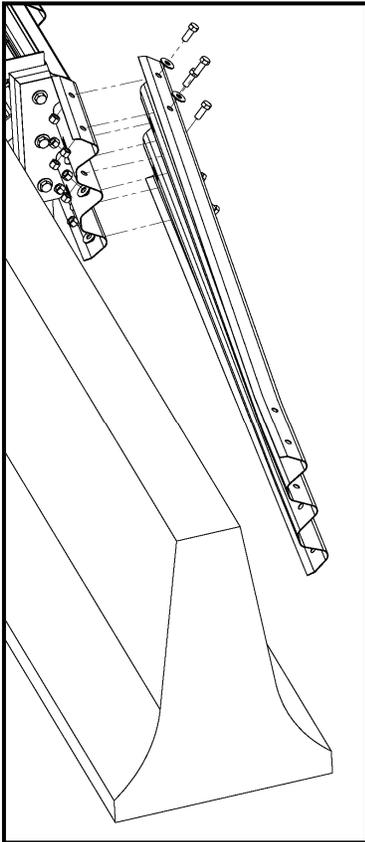
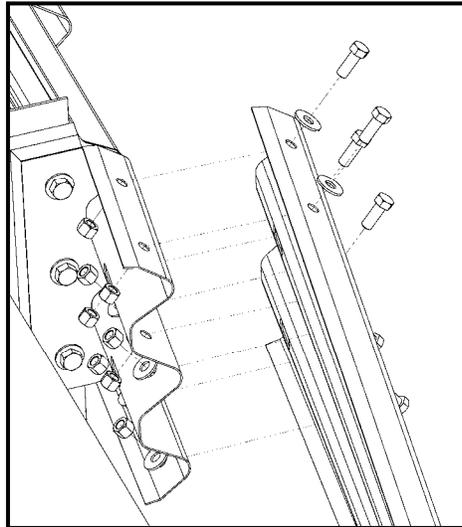
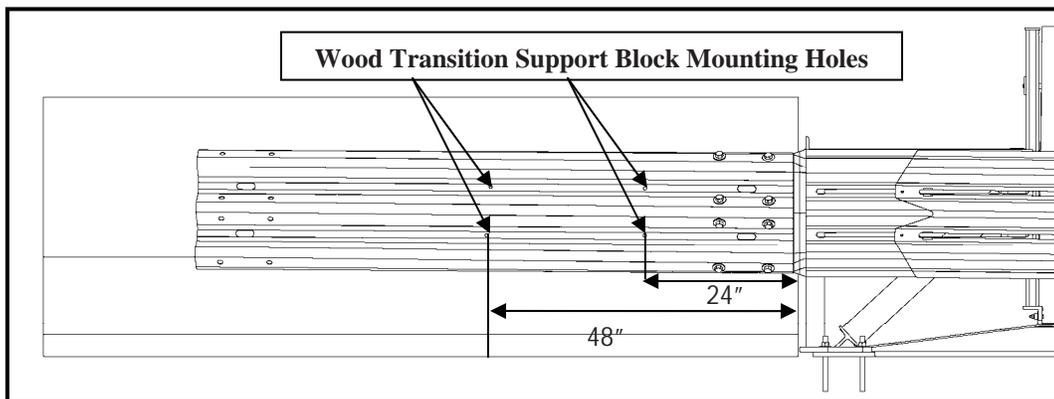

Figure 30: Thrie Beam Attachment
Figure 31: Thrie Beam With Hardware
Figure 33: Wood Hole Reference Location Towards Front
Position the Thrie Beam Panel (6) to the outside of the Short Thrie Beam Panel Assy (5) such that the holes for the Wood Transition Support Blocks (8 and 9) are closest to the Transition Standing Brace (1) (Figure 30) and install the Thrie Beam Panel (6) to the Short Thrie Beam Panel Assy by using eight bolts (27), eight nuts (29), and sixteen washers (28) as shown in Figures 31 and 32. The installed Thrie Beam Panel (6) can be seen in Figures 33 below.